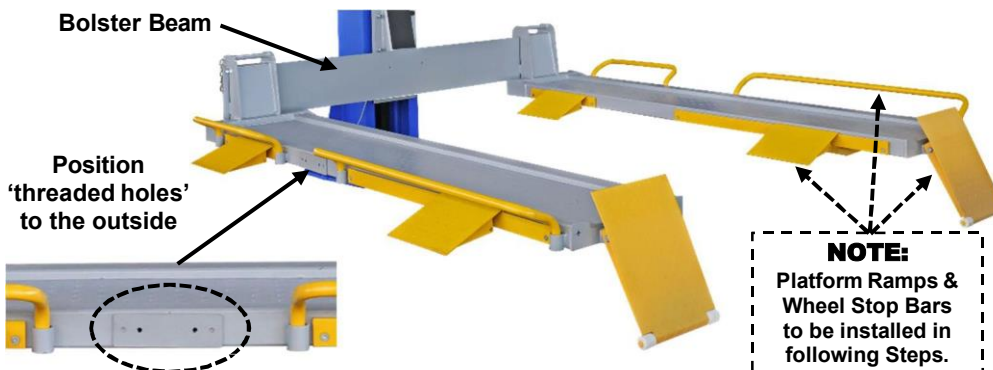

Fig. 11
- 1) Select either the **right side or left side platform** to mount onto bolster beam, The platform 'threaded holes' should be mounted to the outside. **Fig. 11.**